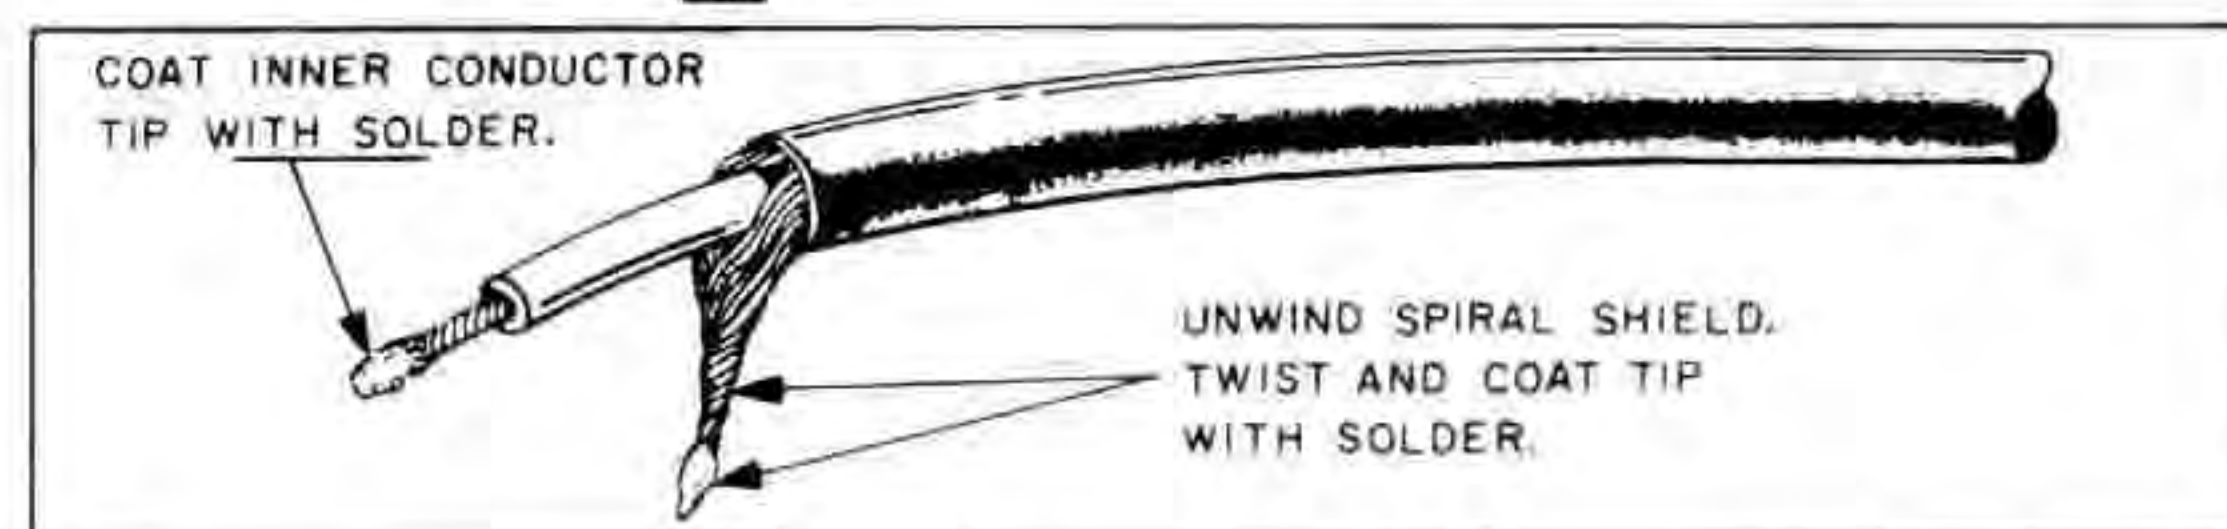

FIGURE 13. SHIELDED CABLE
- ☒ Shielded cable. The four shielded cables are pre-stripped for your convenience. Prepare each end of each shielded cable, as shown in Figure 13.